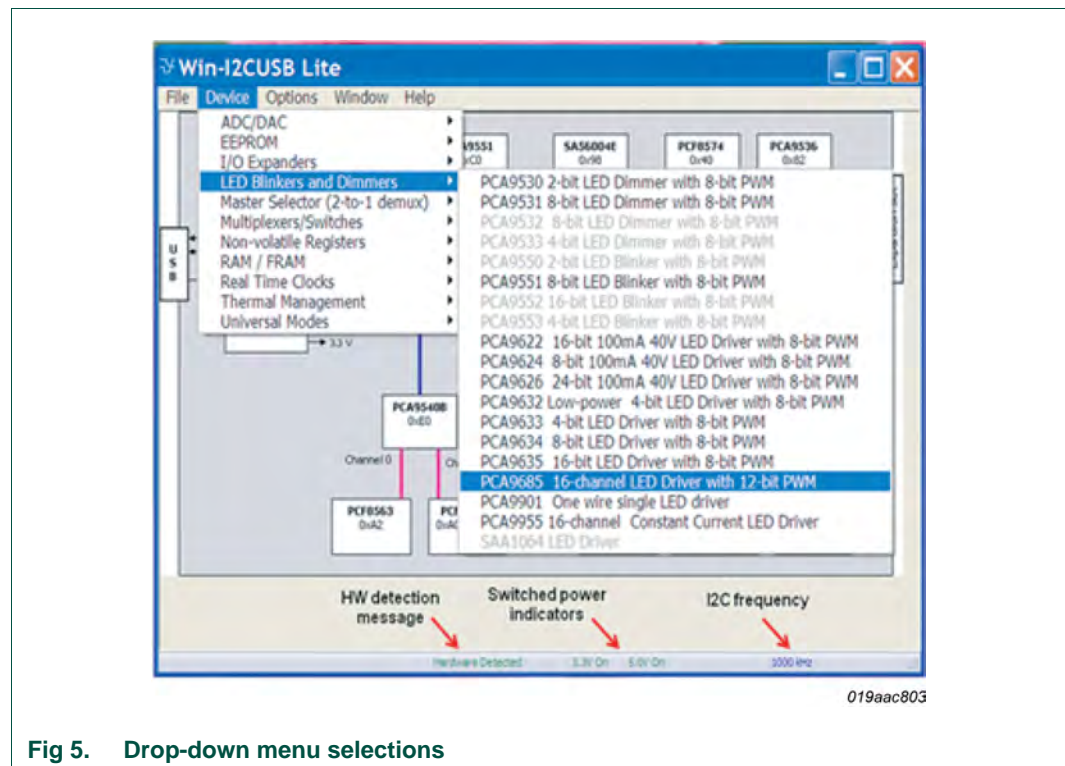

Fig 5. Drop-down menu selections
Connect the hardware as described in Section 4. The PCA9685 demo board address is set to 0x80 on DIP switch (S1) as A[0:5] = S1[1:6] = 000000 (0 → ON, 1 → OFF). When you have correctly installed the software and the demonstration board hardware is connected and recognized by the computer, start the Win-I2CUSB Lite software. As shown in Figure 5, when the demonstration board hardware is correctly connected to the USB port and the computer recognizes it, the message ‘Hardware Detected’ is displayed on the bottom of the window.
1. From the ‘Device’ drop-down menus, select ‘LED Blinkers and Dimmers’, and from the subsequent drop-down menu select ‘PCA9685 16-channel LED Driver with 12-bit PWM’ as shown in Figure 5.